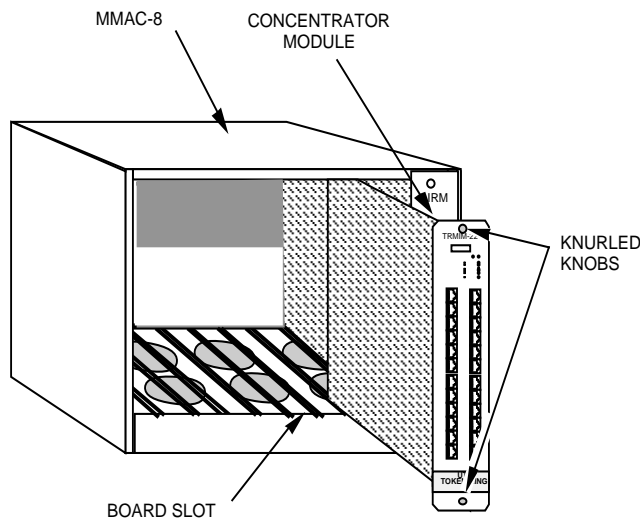

Figure 3-2. Installing the Concentrator Module
2. Remove the selected blank panel from the MMAC and slide the concentrator module into the MMAC card cage (see Figure 3-2). Be sure that the card is in the card guides at the top and bottom slots of the card cage.